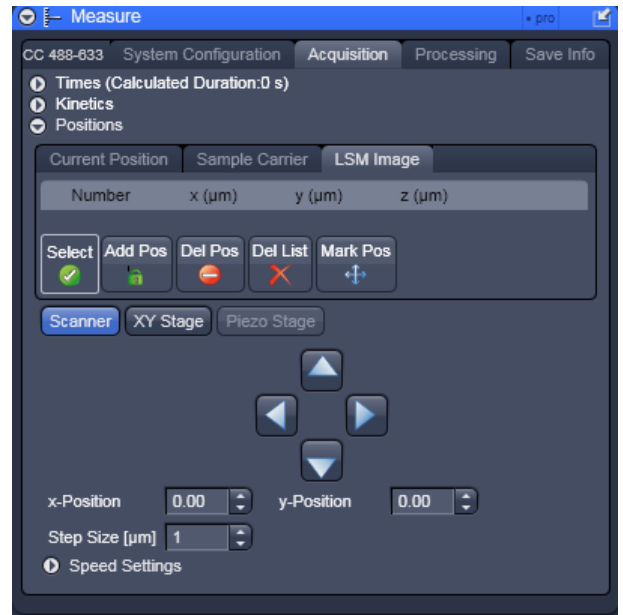

Fig. 47 LSM Image panel
- Click on the **LSM Image** tab to open the **LSM Image** panel (Fig. 47). Click on any other tab to leave the panel.